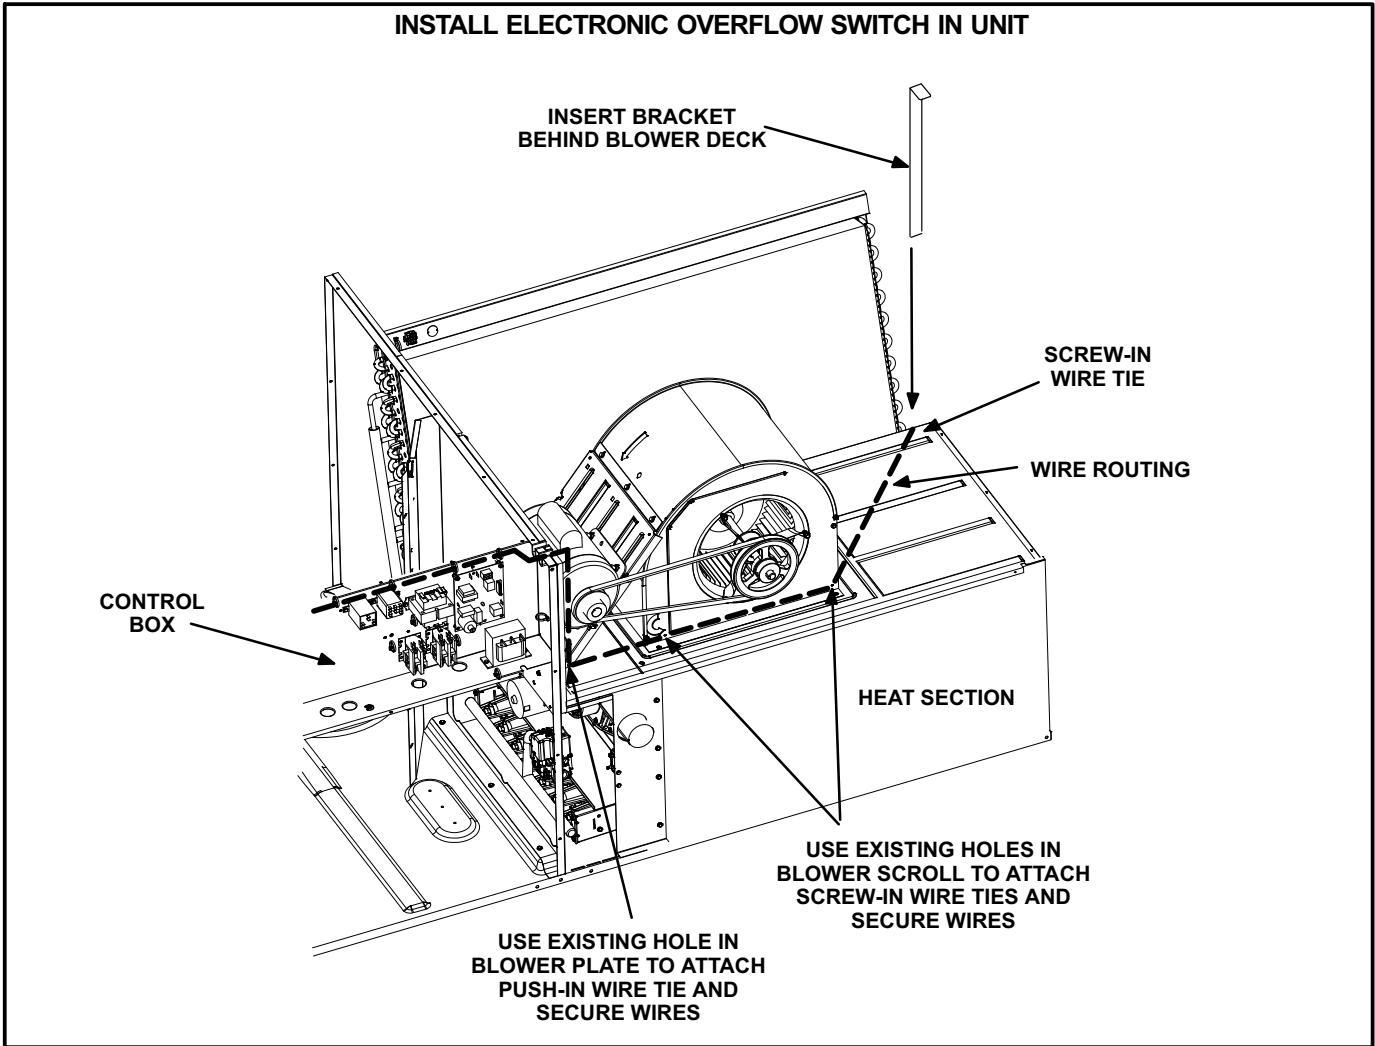

FIGURE 2
- 4- Install bracket behind blower deck as shown in figure 2 and 3. Position bracket 1-1/2" from unit side panel. Secure bracket to blower deck with two screws.
- 5- Route wiring to control box as shown in figure 2.